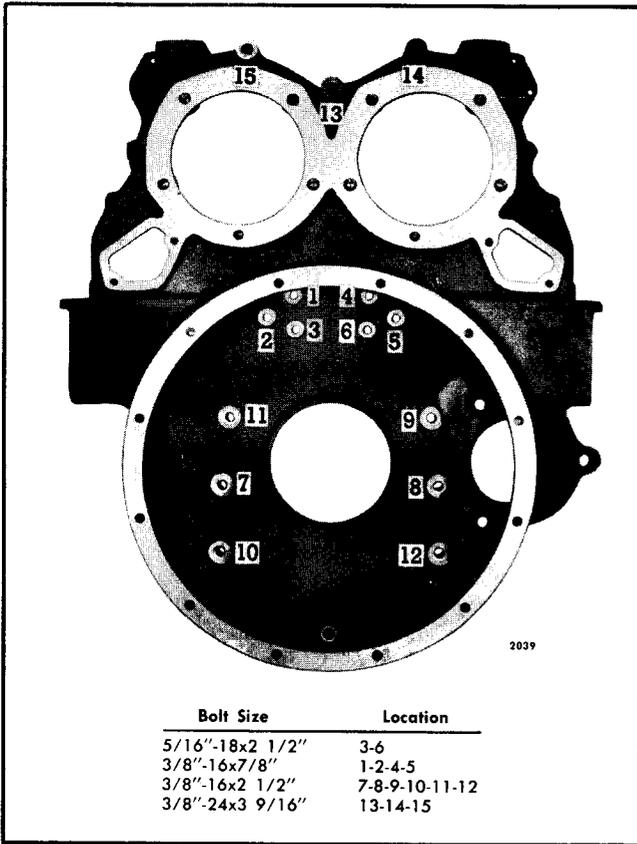
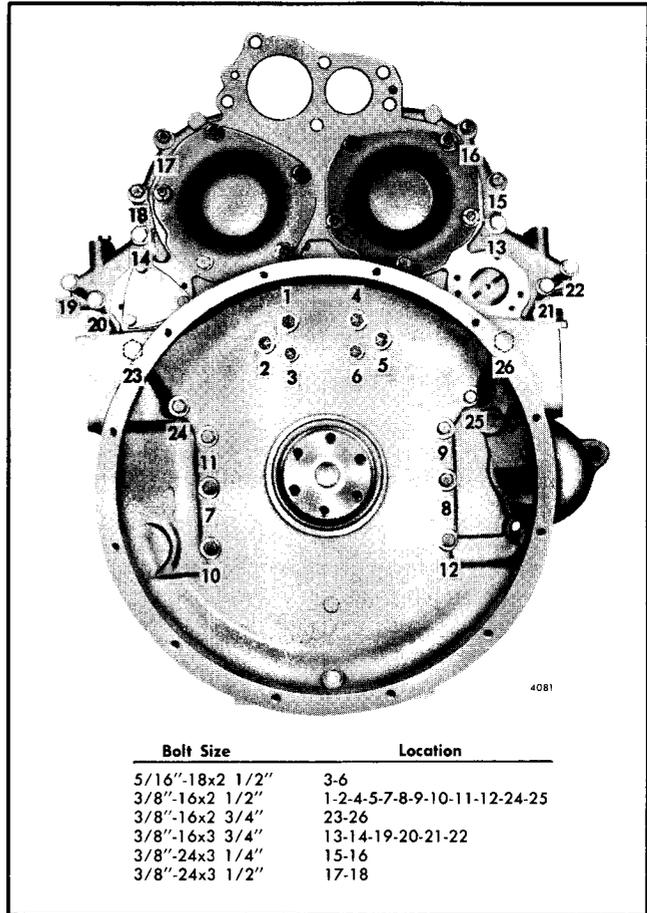

Fig. 3 - Flywheel Housing Bolt Sizes and Tightening Sequence (Operation 1)--In-Line Engine
Fig. 4 - Flywheel Housing Bolt Sizes and Tightening Sequence (Operation 1)--6V Engine
**NOTE:** If the engine is equipped with a clutch housing, do not install the six bolts numbered 7 through 12 (Fig. 3) until the clutch housing is installed.
8. On an In-line right-hand rotation engine, start at No. 1 (No. 4 on left-hand rotation engine) and draw the bolts up snug in the sequence shown in Fig. 3. On V engines, start at No. 4 on a right-hand rotation engine (No. 1 on a left-hand rotation engine) and draw the bolts up snug in the sequence shown in Figs. 4 and 5.
**NOTE:** Prior to Engine Serial Numbers 2D-903, 3D-011 and 4D-103, the bolts numbered 7 through 12 in Fig. 3 were all 5/16"-18 bolts and must be tightened to 19-23 lb-ft (26-31 Nm) torque.